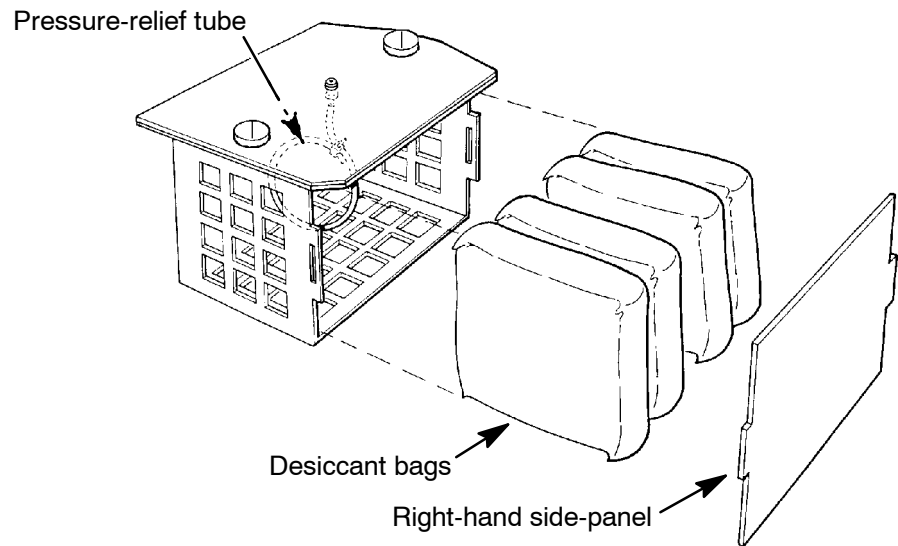

Figure 4-9 Replacing the Desiccant
Five surfaces of the desiccant box are formed from a single sheet of metal. The sixth surface (the right-hand side-panel) is a separate piece (Figure 4-9).
- 7 Remove the old desiccant bags and discard them. Be careful not to damage the pressure-relief tube that lies between the middle two bags (Figure 4-9).